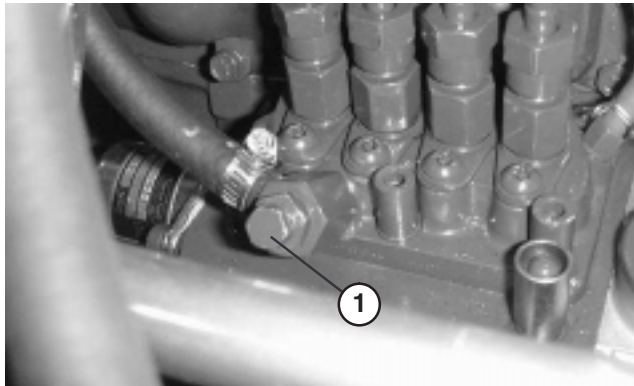

Figure 14
5. Open the air bleed screw on the fuel injection pump (Fig.14).